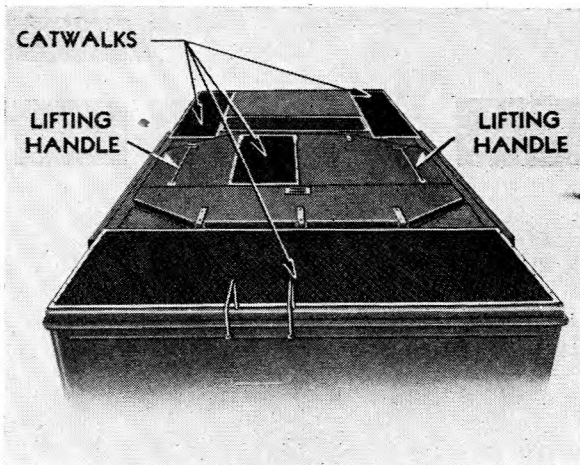

Fig. 7—Roof of trailer showing catwalks
10. (a) Release the four roof hatch latches inside the trailer. Sweep any accumulation of rain water from the moveable section of the hatch with a broom. Open the rear section of the hatch first, by raising it and folding it back. Two men are required for opening the front section, one on each side. Use the two large handles to pull the door up and towards the front of the trailer until it rests upon the roof, (Fig. 7).